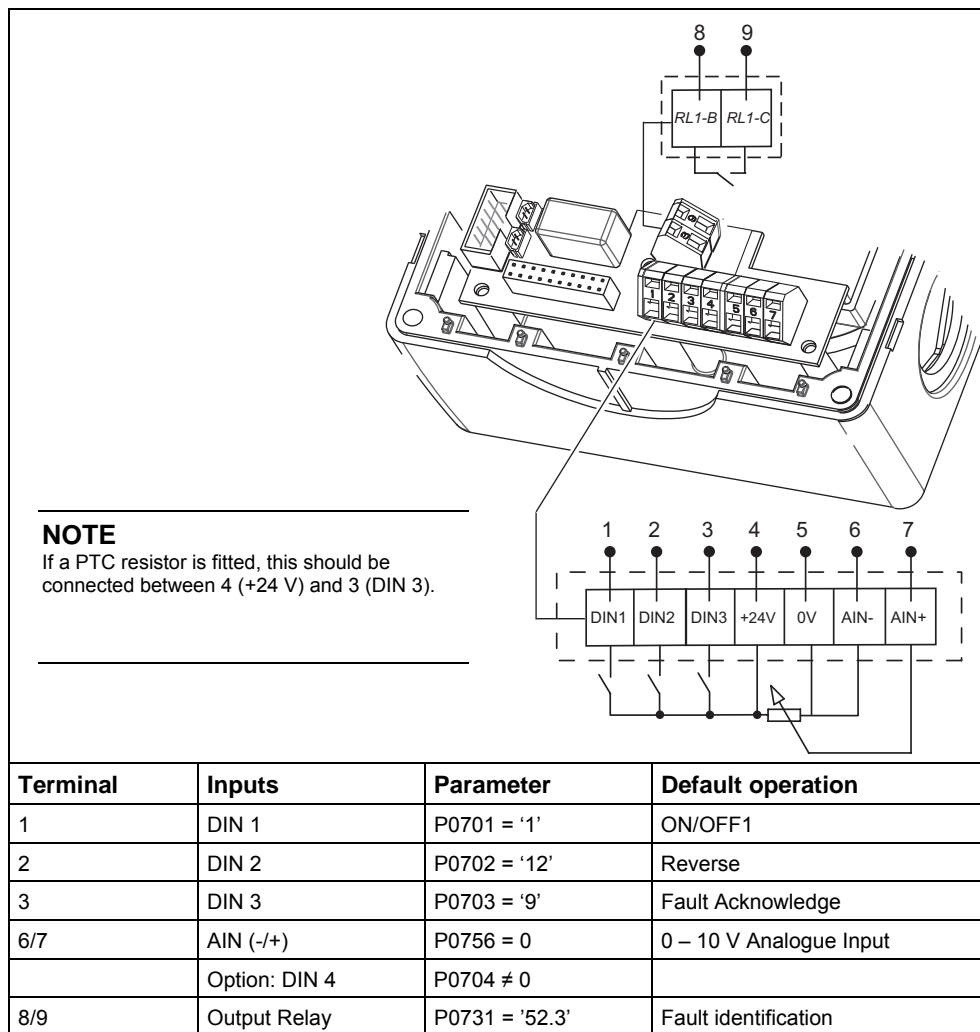

Figure 2-14 Control Terminals
3. Connect the control wires in accordance with the terminal information given in Figure 2-14.